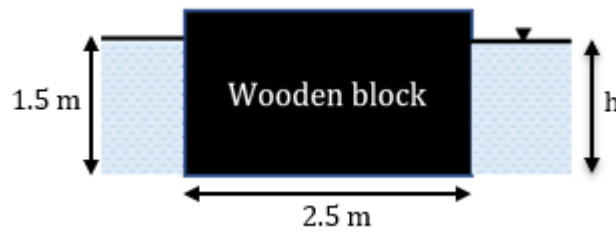

Figure 1
1. The density of wooden block is 650 kg/m^3 and its length is 6.0 m floats in water as shown in figure 1. Compute the volume of water displaced and the centre position.